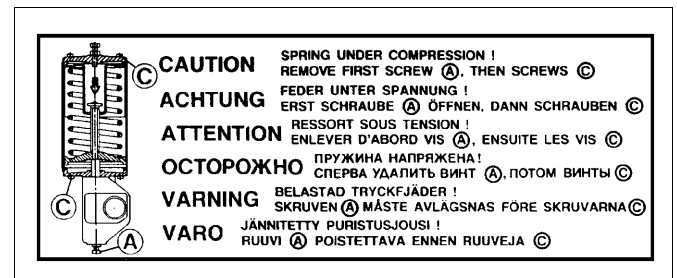

Fig. 17 B1JA actuator warning plate
The cylinder has a warning plate (43), see Fig. 17. When servicing the unit, check that the plate is in place and legible. Also check that the cylinder has the arrow sticker indicating the spring operating direction.